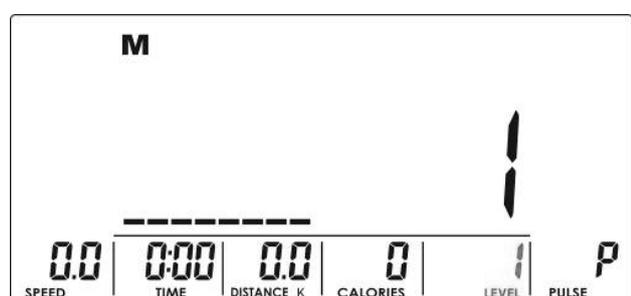

Figure 4
(1) Select a training programme with the UP or DOWN buttons. Select M and confirm with MODE/ENTER.
- (2) Set the intensity level with the UP or DOWN buttons (fig. 4). The default value is 1.